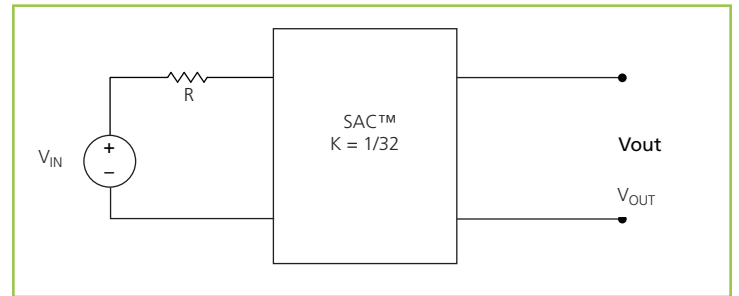

Figure 15 — K = 1/32 Sine Amplitude Converter™ with series input resistor
interesting attributes. Assuming that ROUT = 0 Ω and IQ = 0 A, Eq. (3) now becomes Eq. (1) and is essentially load independent, resistor R is now placed in series with VIN as shown in Figure 15.
Assuming that $R = 1 \Omega$, the effective R as seen from the secondary side is $0.98 \text{ m}\Omega$, with $K = 1/32$ as shown in Figure 15.